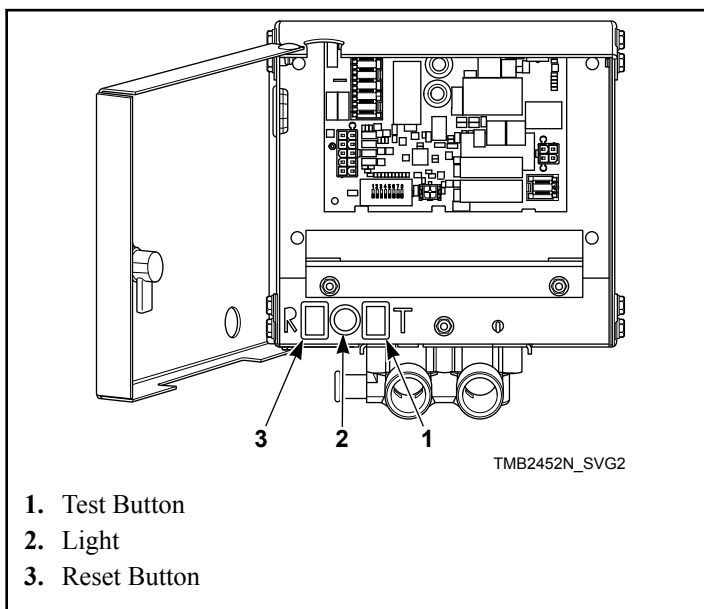
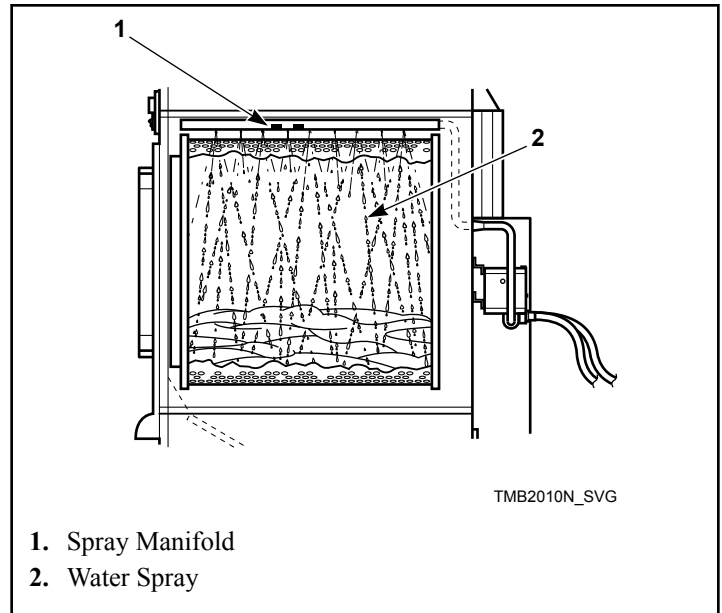

Figure 7
Figure 8
6. Press and hold the test button, verify the light is on, this should take approximately five seconds. Refer to *Figure 7*. After a one-second pause water should begin to spray into the cylinder.
7. After 15 seconds of water spray, press and hold the reset button until water spray is off and light is off. This should take approximately one second. Refer to *Figure 7* and *Figure 8*.